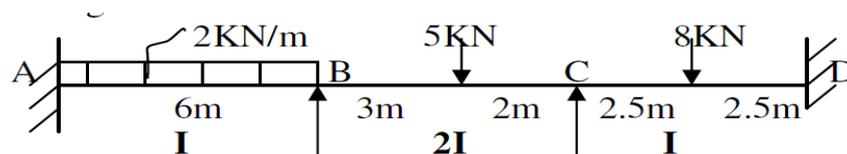

Fig.3
24. a) Analyse the beam shown in fig.3 by slope deflection method.